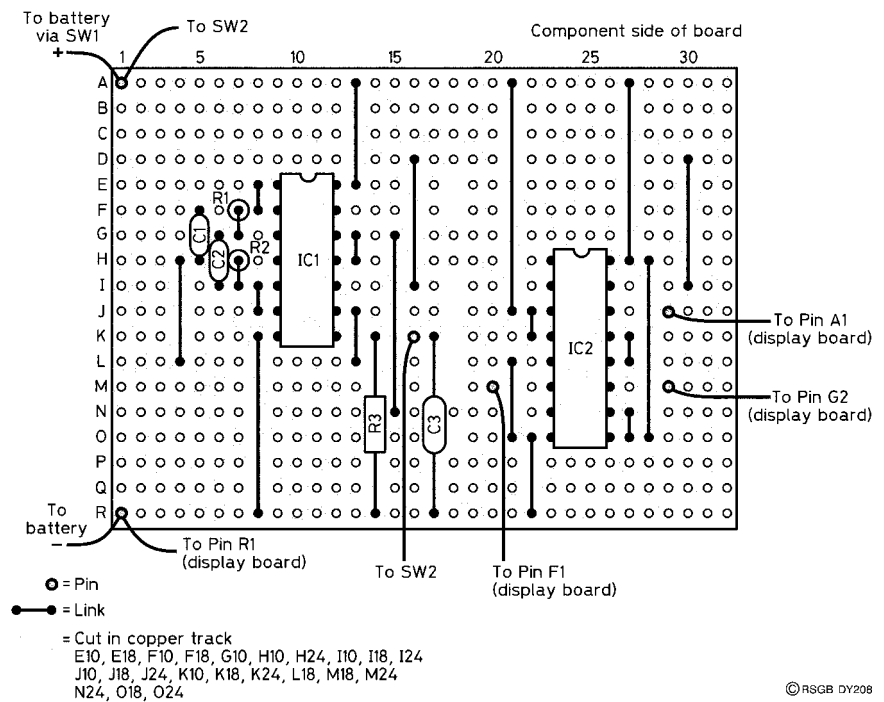
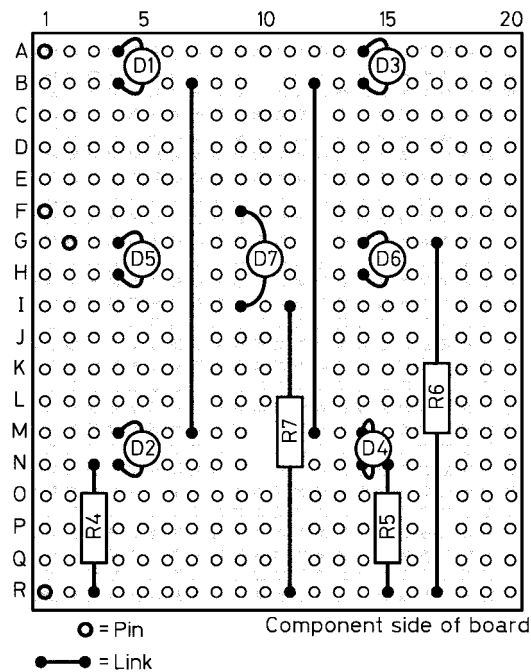
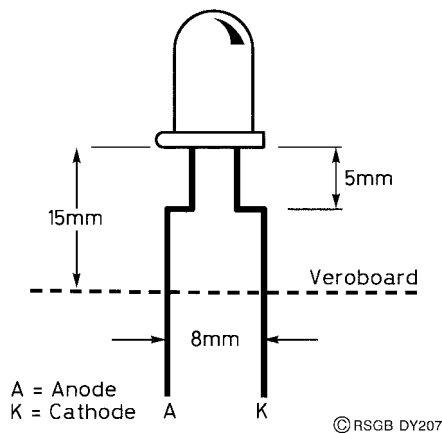

Figure 2 Main board, component layout
Figure 3 Board for the six LEDs
Figure 4 D7 lead bending
Two pieces of Veroboard (of the strip type) are needed – one for the main circuit (Figure 2) and the other for the display LEDs (Figure 3). The display board is easier to build, so we will do that first. It measures 20 holes by 18 strips.
Cut the tracks as shown in Figure 3, using a 3 mm (1/8 inch) twist drill rotated between thumb and forefinger. Insert and solder the Veropins, resistors and the wire links. Then solder the LEDs in place, making sure their polarities are correct. The LEDs are mounted proud of the board (Figure 4, which will help when you come to fix the board into a case.
The main board measures 32 holes by 18 strips. As before, remove the tracks in the places shown in Figure 2. Note that track 'L' is *not* broken under the position for IC2. Solder in the IC holders and the links. Solder in R1 and R2 vertically, and R3 horizontally. Then solder in C1, C2 and C3; these all being electrolytics, check their polarities. Solder in the Veropins and prepare the connections to those components not on the main board, using stranded, insulated wire. Check the circuit carefully, and read the handling precautions given earlier before carefully inserting the two ICs.
- Disconnect the lead to D7 on the main board (marked ‘to pin F1’ on Figure 2). Touch the lead on to the positive supply rail. D7 should light. Now transfer this lead on to pin 4 of IC1. If it flickers, then the oscillator is running (which it should).